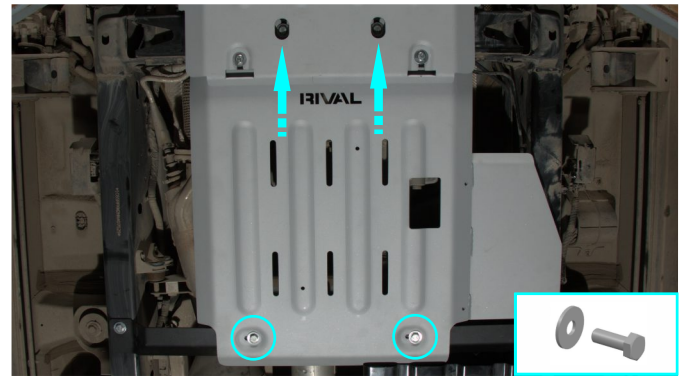

Fig. 10
10. Slide front part of transfer case skid plate (item 1) under previously installed bolts M10x30 from step 9 and secure it using bolts M10x30 with flat washers M10 (items C, E) as shown in fig.10.